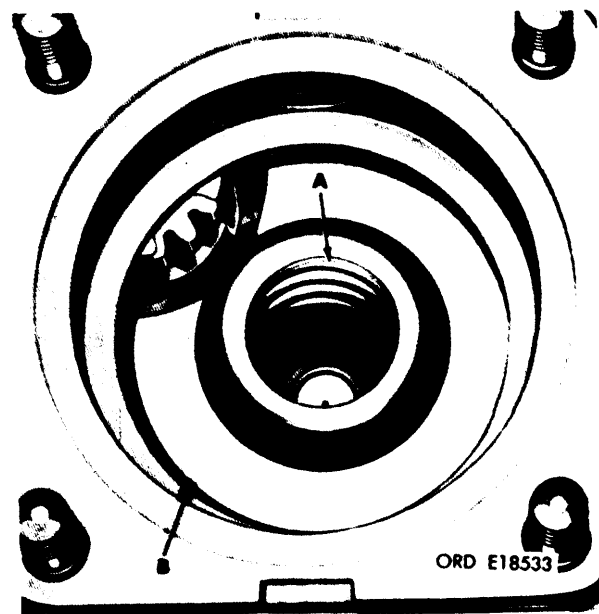

Figure 3-120. Installing plunger spring seat.
(2) Refer to figure 3-120. Install plunger outer spring (A) and spring seat (B).